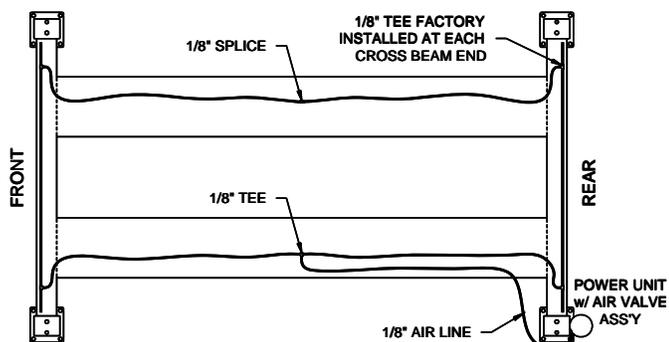

Fig 12 – Lock Release Air Line Routing
- 35) Install 1/8" air line from air valve assembly thru opening in runway to Tee. **Fig 12**